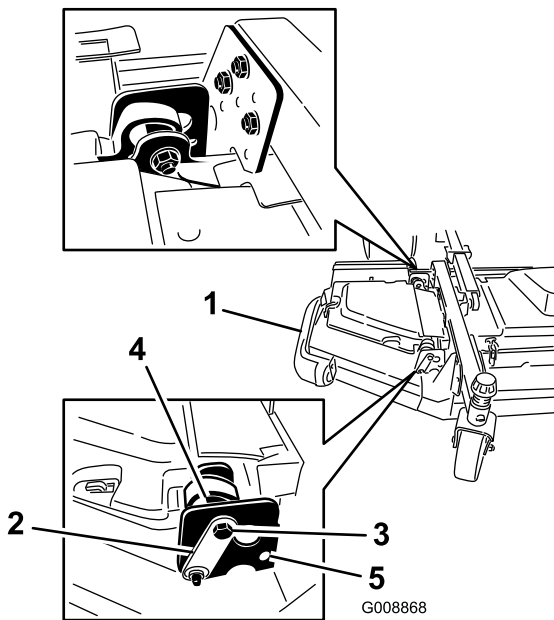

Figure 7
- Loosen the bolts and nuts securing the two eccentric spacers to the winglets (Figure 7).
- Rotate the rear (closest to traction unit) eccentric until the outside blade tip is about 1/8 inch higher than the desired height of cut (Figure 7).